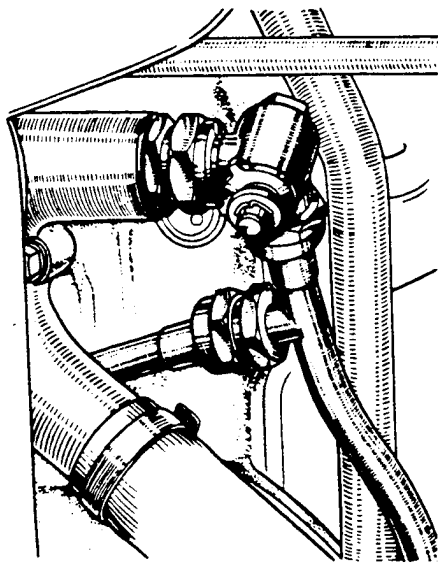

FIG. 1 THE EARLY HEATER RETURN PIPE.
It has been found in service that the heater return pipe on the Bentley Continental Sports Saloon is subject to fracture at the junction of the return pipe from the underwing demister unit, due to strain. The junction is shown in Fig.1.
3. Disconnect the heater return pipe at the junction below the tap on the water pump (A Fig. 1).